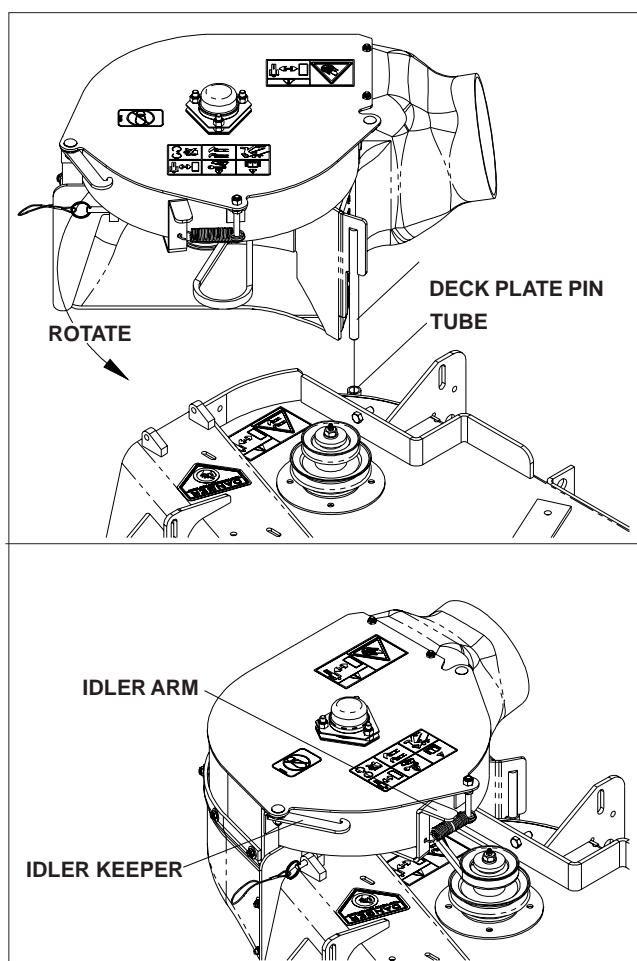

FIGURE 3
19. Place the deck plate pin in the tube on the back edge of the deck. Rotate the blower around and into place. Figure 3.
20. Install the pin thru the tabs on both the deck and the blower. Figure 3.
21. Latch the idler arm in the idler keeper. Figure 3.